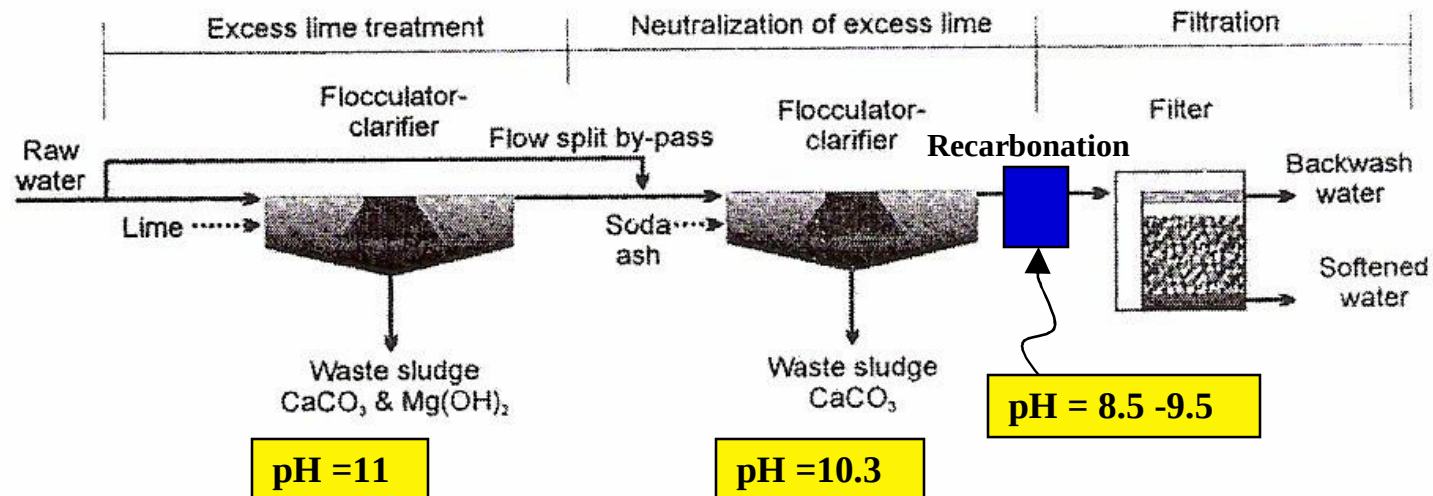

Fig. 3.6 Schematic diagram of a split system softening water treatment plant
- Split treatment consist of treating portion of the raw water by excess lime treatment and Then neutralizing the excess lime by the bicarbonate naturally existing in the untreated bypass flow (Figure 3.6).